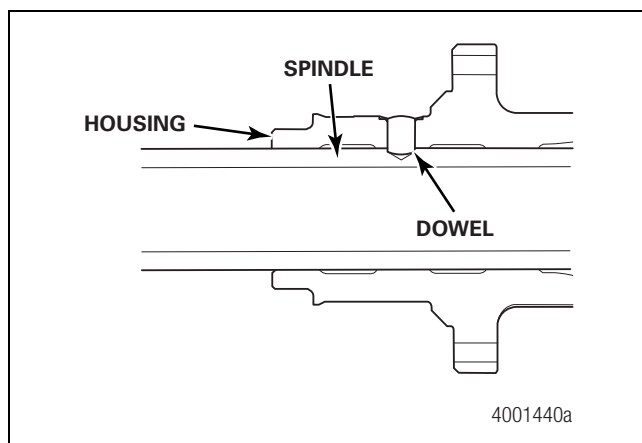

Figure 5.19
10. Install a dowel into the housing and the spindle. Figure 5.19.